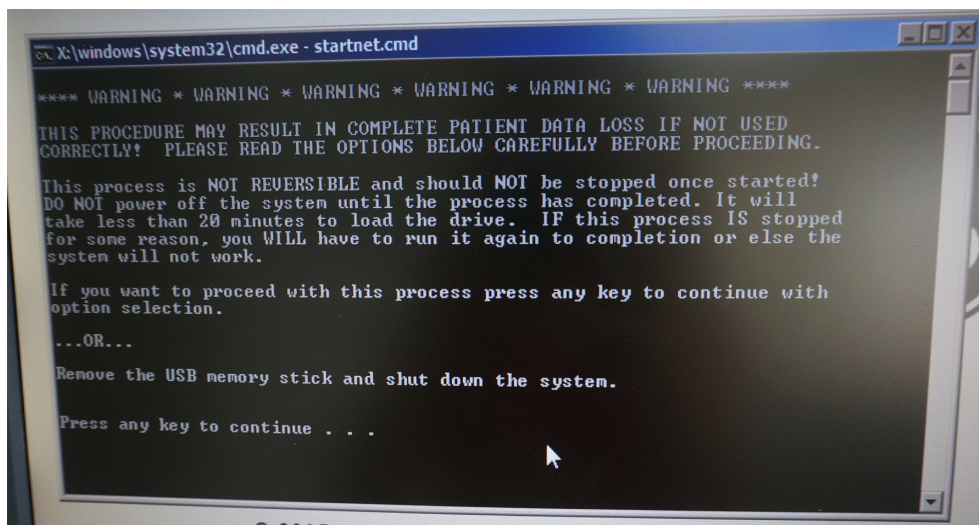

Figure 8-22 Upgrade Information
- 6.) Press any key to continue the upgrade process, refer to Figure 8-22 on page 8-11 .